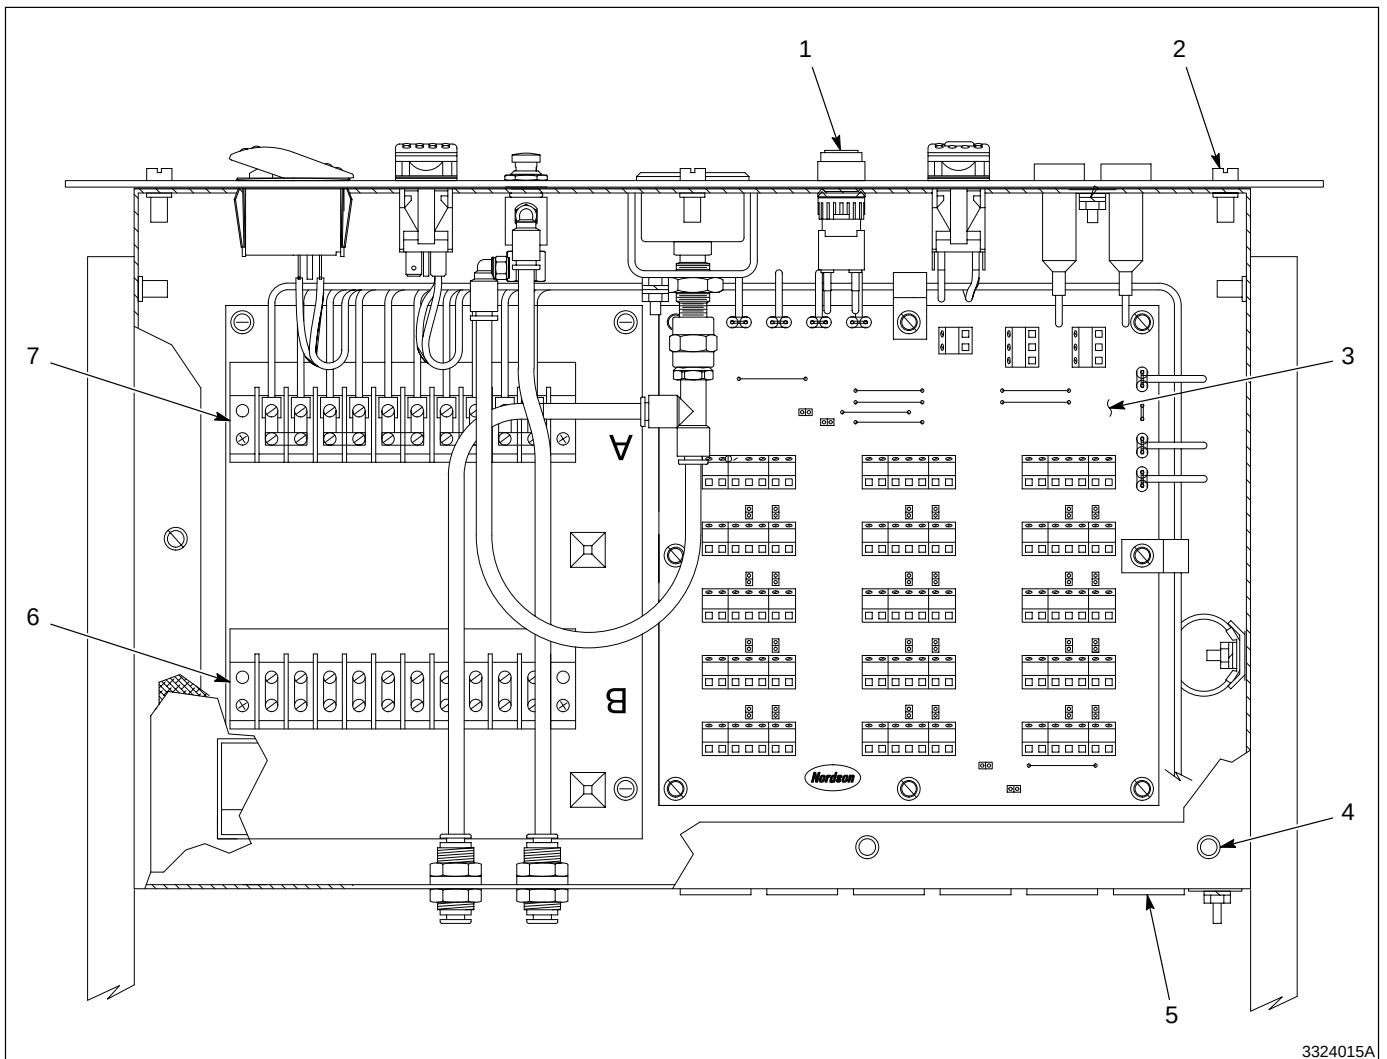

Fig. 3-1 Master Control Unit
1. See Figure 3-1. Turn off the main power switch (1) to the system.
2. Remove the four screws (2) to the front panel.
4. Remove the ten screws (4) from the top panel of the master control unit.
3. See Figure 3-1. Ensure that 5 metal jumpers are present in terminal block A (7) positions 1-2, 3-4, 5-6, 7-8, and 9-10.
1. See Figure 3-1. Remove the jumpers 1-2, 7-8, and 9-10 from terminal block A (7). The only remaining jumpers should be 3-4 and 5-6.
See Figure 3-1. Terminal block B (6) is used for PLC control of the purge-all or bank purge solenoids. The solenoids are 24 Vdc and 2 Watts. They are controlled through the 40-conductor cable. Refer to Table 3-4 for connections.